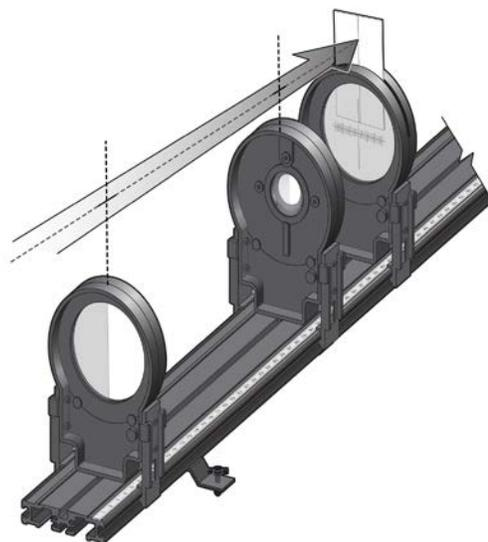

Figure 2
1. Draw a vertical line on a 3" × 5" index card; place this card in the slot on the full viewing screen. This screen is your image position marker. Place the half screen (which serves as the object), convex mirror, and full screen on the track as shown in Figure 2.